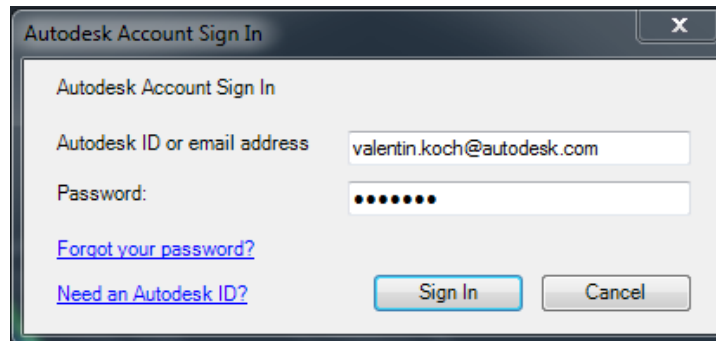
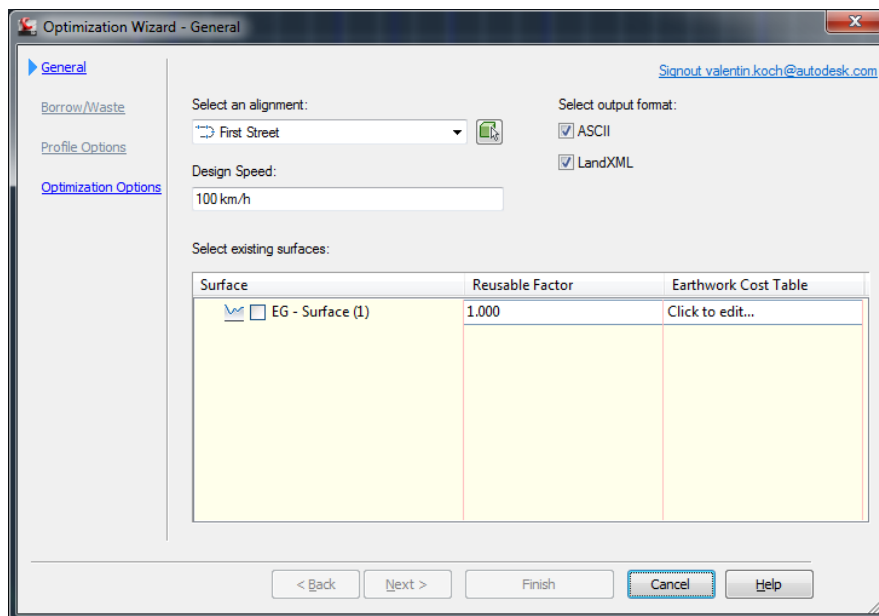

Figure 7: Autodesk Cloud login
Figure 8: Optimization Wizard
2. A login window appears (see Figure 7). Silverstar is an Autodesk Cloud service. Hence, you need to enter a valid Autodesk Account login and password. If you don't have an account yet, please visit <https://accounts.autodesk.com> to create an account at no cost. Once you entered your credentials, the optimization wizard should appear as shown in Figure 8.
3. The account e-mail is shown on the top left (see Figure 8). The solution will be sent to this address.